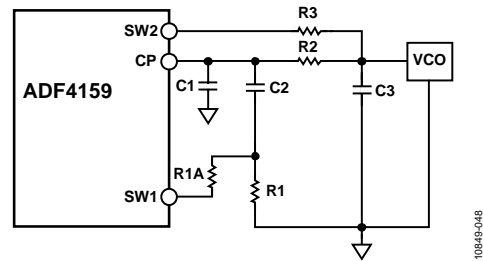

Figure 54. Fast Lock Loop Filter Topology 2
- Connect an extra resistor (R1A) directly from SW1 (see Figure 54). The extra resistor must be selected such that the parallel combination of an extra resistor and the damping resistor (R1) is reduced to $1/4$ of the original value of R1.